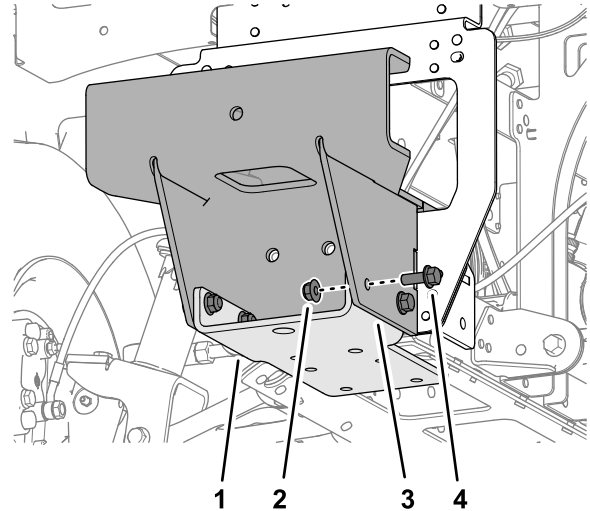

Figure 49
2. Loosely assemble the bottom bracket onto the ball-picker mount (Figure 49) with 4 flange bolts (3/8 x 1 inch) and 4 flange locknuts (3/8 inch).
5. Remove the 4 flange bolts (3/8 x 1 inch), 4 flange locknuts (3/8 inch), and bottom bracket from the ball-picker mount (Figure 49).